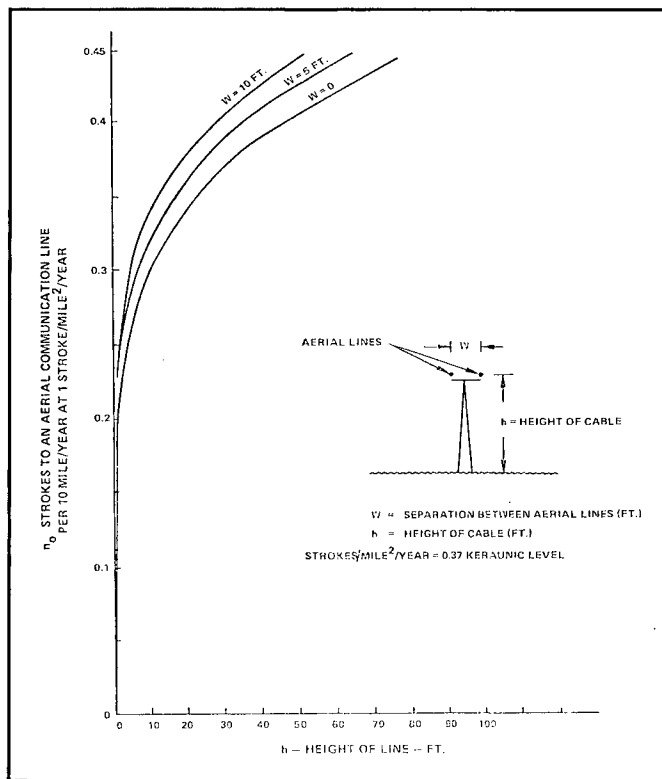

Figure 18. Strokes To Aerial Line, 10 Mile/Year.
Figure 18 represents the plotting of Equation 20.
It will be interesting to compare (N) with the number of strokes corresponding to ( $n_0$ ), the unshielded case from Figure 18 for h equals 30, where the corresponding value of  $n_0$  was found to be 0.36 stroke/10 mile/year. The number of strokes for an unshielded line is obtained from Equation 18:
Average flash density equals 15 strokes/mile2/year. From Figure 18: